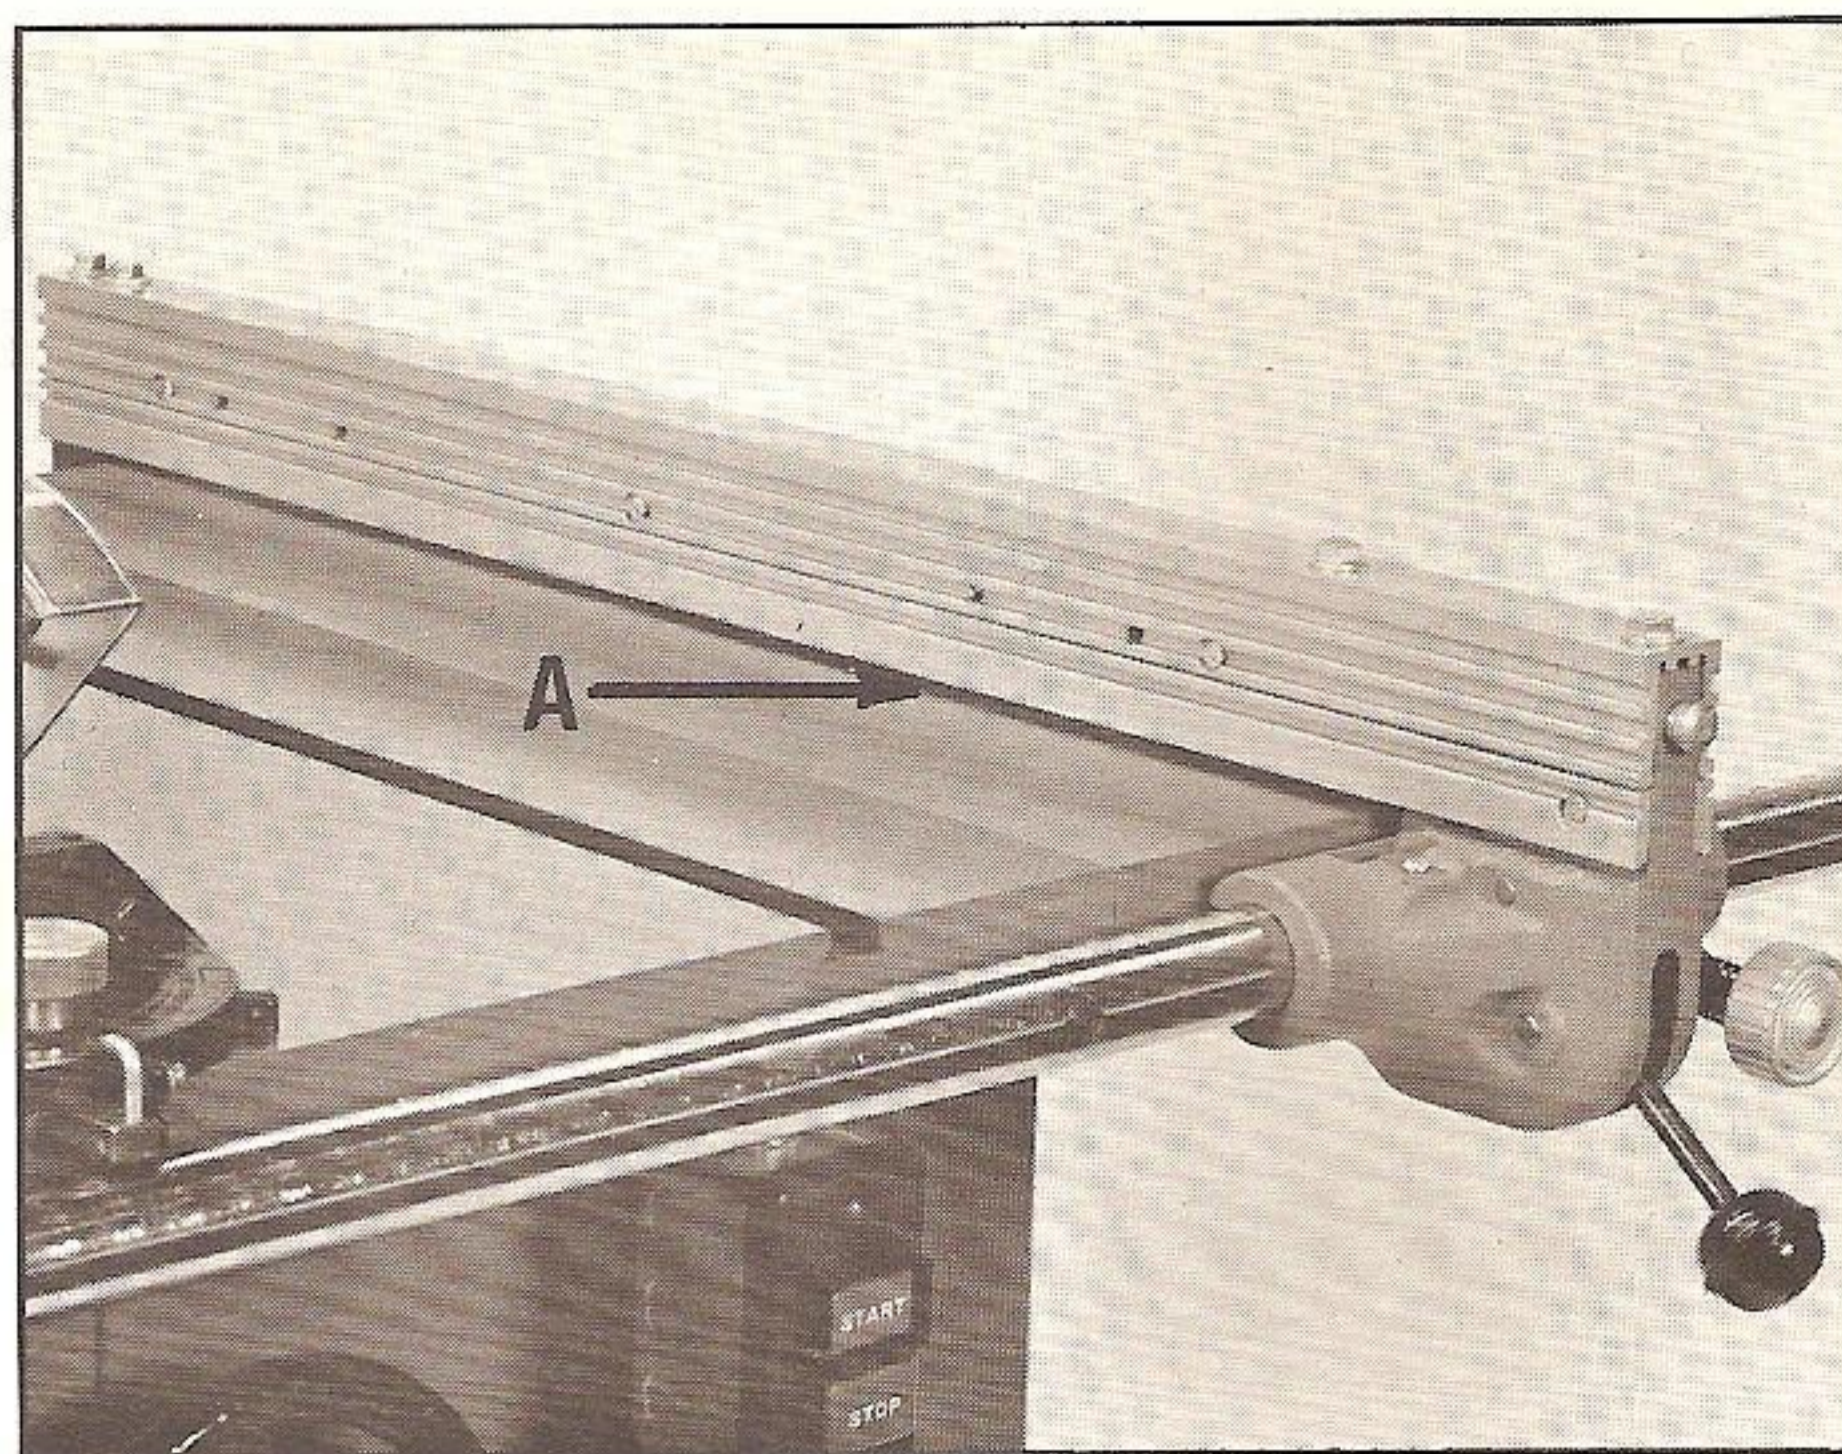

Fig. 28
When cutting thin material (such as veneer), the material may slide or catch between the bottom of the rip fence and the table surface (A) Fig. 28, causing loss of control of the work piece.